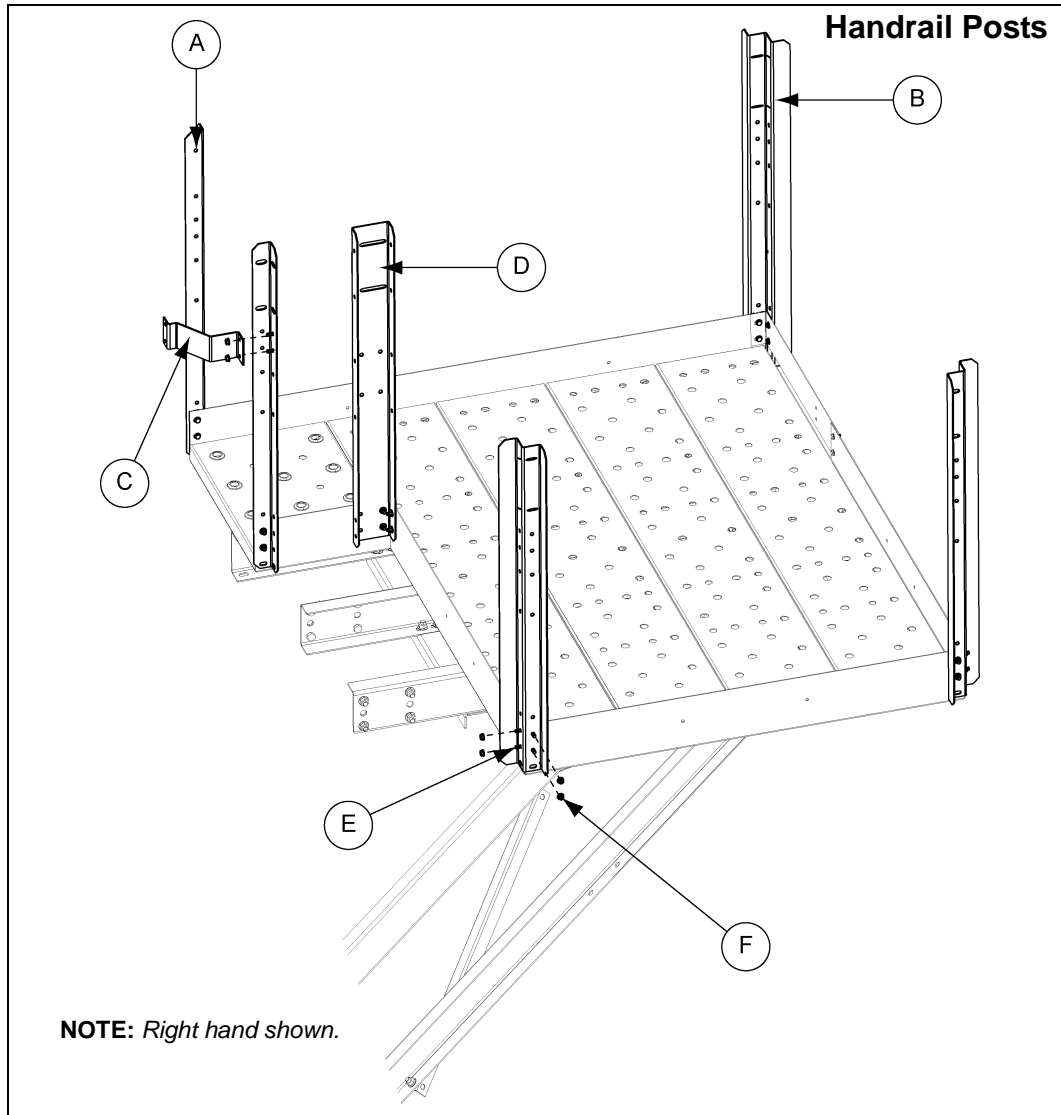

Figure 12H
1. Install the remaining two (2) "W" corner posts to the corners on the non-entrance side of the decking using four (4) 5/16" x 3/4" flange bolts (S-6606) (E) and nuts (S-3611) (F) per post.
2. Install platform post (HP1648HCP) (D) to the inside corner of the decking near the entrance to the platform using four (4) 5/16" x 3/4" flange bolts (S-6606) (E) and nuts (S-3611) (F).
3. Attach side posts (HP1648HP) (A) to the decking at the entrance to the platform using two (2) 5/16" x 3/4" flange bolts (S-6606) (E) and nuts (S-3611) (F) per post.
4. Install distributor handrail support (DSP1648HS) (C) to the side post on the inside, located closest to the trunking through holes 3 and 4 counting from the top of the post. Use two (2) 5/16" x 3/4" flange bolts (S-6606) (E) and nuts (S-3611) (F) to fasten in place. (*See Figure 12H.*)